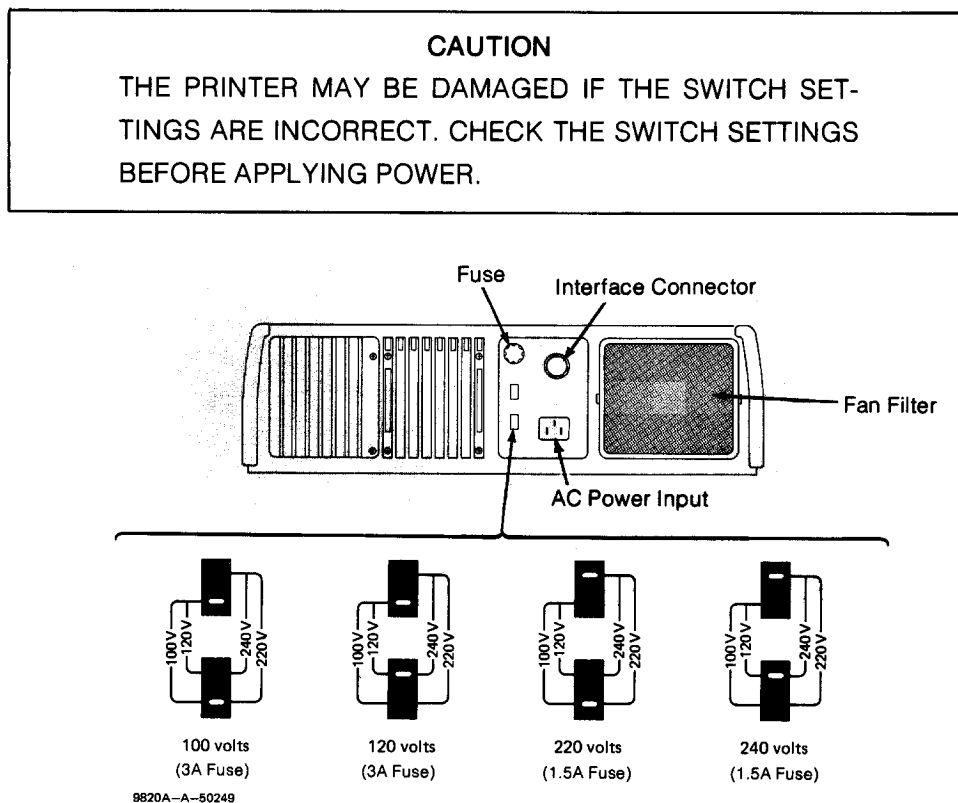

Figure 1. The Printer Back Panel
The printer operates from nominal power line voltages of 100, 120, 220, or 240 volts ac. The range of operation is within +5% and -10% of each nominal voltage. Two switches on the printer back panel allow selection of any one of the four nominal voltages (see Figure 1). The line frequency must be within 48 to 66 Hz and the printer requires a maximum of 250 voltamps.
2. The two slide switches located on the rear panel (see Figure 1) must be set to the particular line voltage to be used. Each switch is set by inserting the tip of a small screwdriver into the white slot and then sliding the switch so that the slot is opposite the line corresponding to the desired voltage.
3. Switch the LINE switch, located on the front of the printer, to the OFF position. Connect the power cord to the ac power input connector (see Figure 1) and plug the other end of the cord into a suitable ac power outlet.